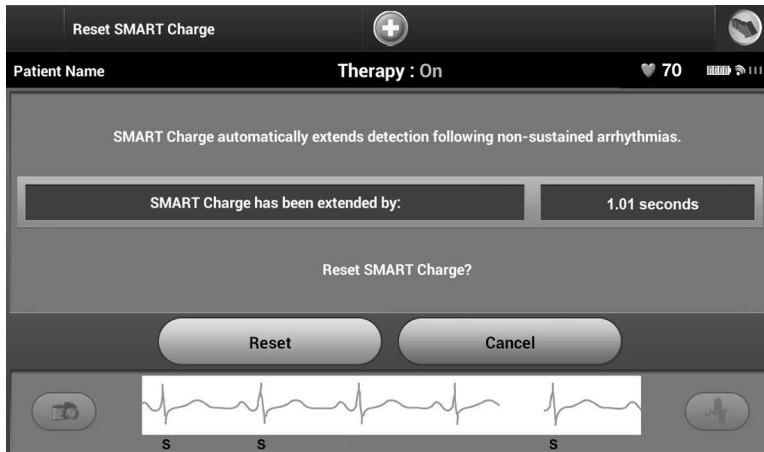

Figure 54: *Reset Smart Charge screen*
1. From the Utilities screen (accessible from the Main Menu screen), select the Smart Charge button. The Reset Smart Charge screen appears (Figure 54).